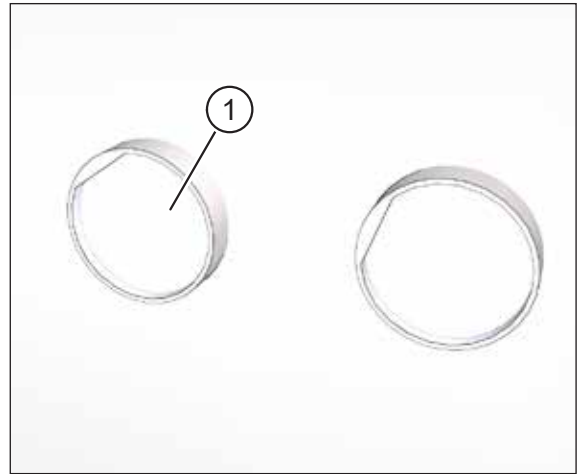

Fig. 40: Installation kit plastered on the outside
- ▶ Remove the two protective sleeves (item 1 in Fig. 40).